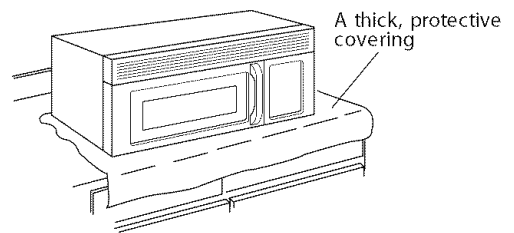

Figure 10
2. Cover the counter top or cooktop with a thick, protective covering to protect it from damage and dirt. See Figure 10